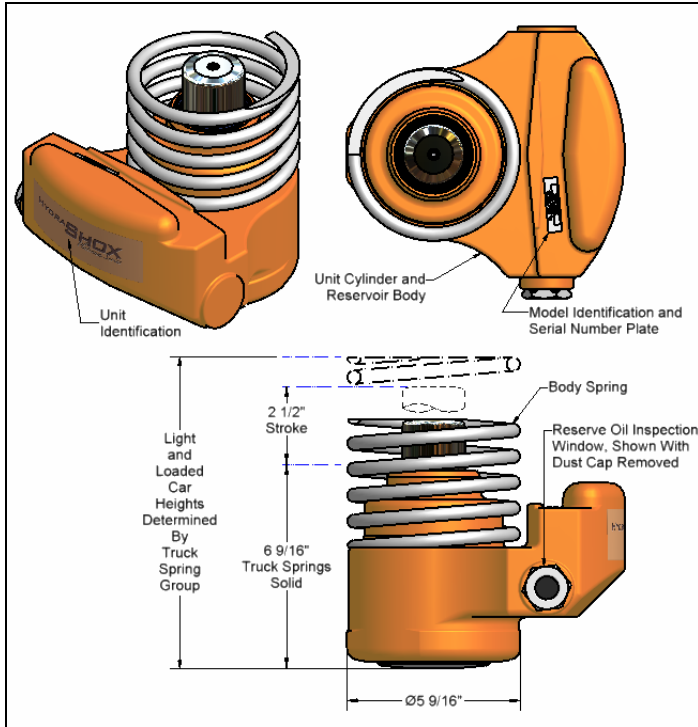

Figure 1. HydraShox Platinum
The model is identified on the unit serial number plate and outer housing (Fig. 1). When a HydraShox unit is replaced, it is important that it be replaced by a unit of equal capacity rating.
A Hydrashox Platinum, as received, consists of three separate elements which are packaged in a polyethylene bag containing a vapor-phase inhibitor to dispel moisture to help prevent corrosion of the chrome-plated piston rod, but units should not be stored outdoors longer than necessary. Incoming stock should be rotated so that those first received are first used. Do not remove units from bags until ready to use. Contact Stucki before applying units which have been in prolonged storage unprotected from moisture. The body spring and retainer assembly are normally shipped in the same cartons as the units. These must be assembled onto the stabilizer (Fig. 1) prior to installation of the unit into the spring nest.
3. Place a body spring over the top of the unit (Fig. 1).
The HydraShox Platinum incorporates a high pressure seal on the piston rod which will characteristically pass slight amounts of oil under normal operating conditions. This fluid loss is compensated for by the reserve oil in the unit which comprises about 10 percent of the total oil volume of the 1350 ML. (46 ounces). The reserve oil can be checked by visual inspection of the sight window in the plug on one side of the reservoir (Fig. 1). The window has been located so that the point at which the oil level drops to the bottom of the glass is the point at which the damping rate of the unit may be reduced with further fluid loss.